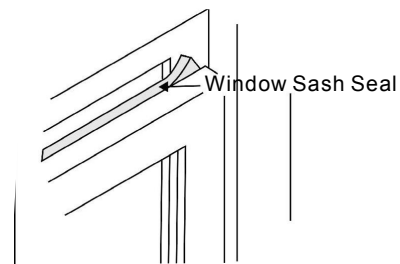

Fig.18
- Trim sash seal to fit window width. Insert into space between upper and lower sashes (Fig. 18).